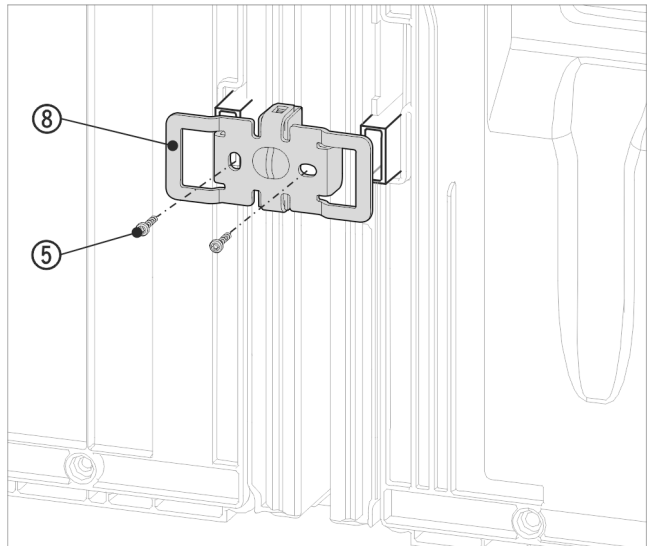

Fig. 20 Example illustration
- ▶ Slide the bracket Fig. 20 (8) on once more with the slots over the retainer for the wall spacers.
- ▶ Screw in tightly with the 2 screws Fig. 20 (5).